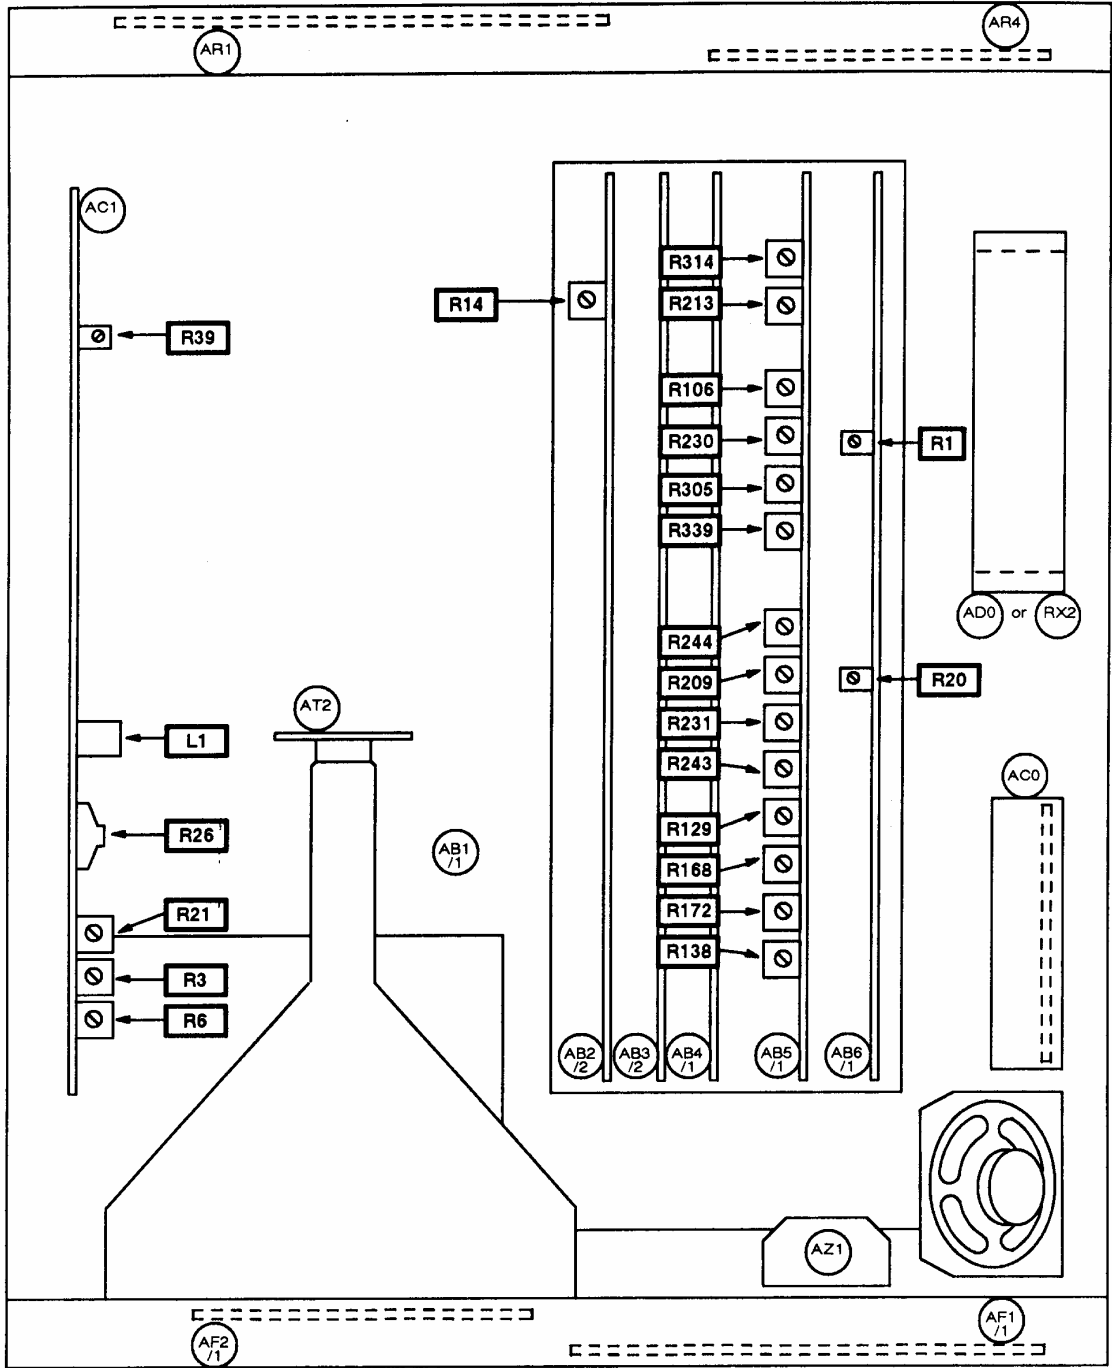

Fig. 5-2-1 Adjustment points accessible from above the instrument
5. Tables 5-2-1 and 5-2-2, which are intended for use with Fig. 5-2-1, summarize the various instrument adjustment points. Table 5-2-5 shows those for the plug-in boards held in the card-frame while Table 5-2-6 shows the remaining, generally less accessible, ones. Fig. 5-2-1 is a simplified plan view of the instrument and shows the adjustment points that are accessible from above the instrument while also showing the locations of all boards except those in the RF tray. Note however, that in the majority of cases adjustment should only be necessary following component replacement. Adjustments may be made in accordance with the details given under the appropriate board headings, using the equipment specified in Table 5-2-1.